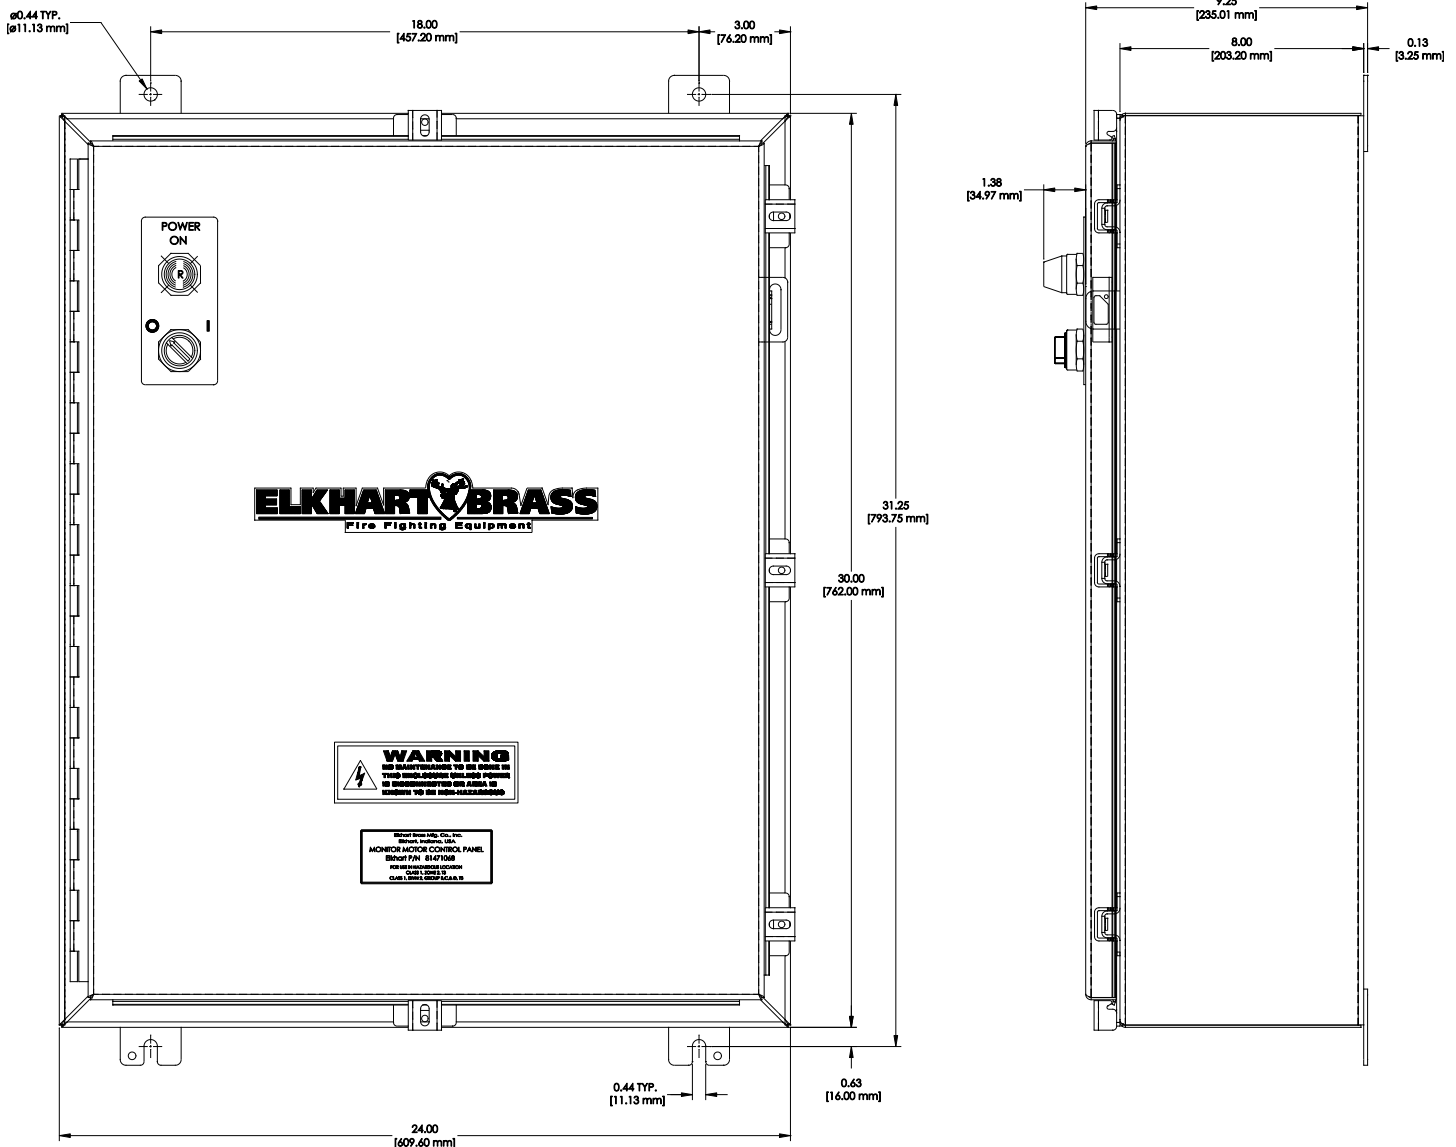

Figure 6: MMCP Mounting Dimensions
3. The enclosure has four (4) mounting pads with .44" (11.18mm) diameter holes. Mounting hole centers are 18" (457.20mm) horizontal by 31.25" (793.75mm) vertical. Please refer to Figure 6 on page 10 for dimensional drawing.